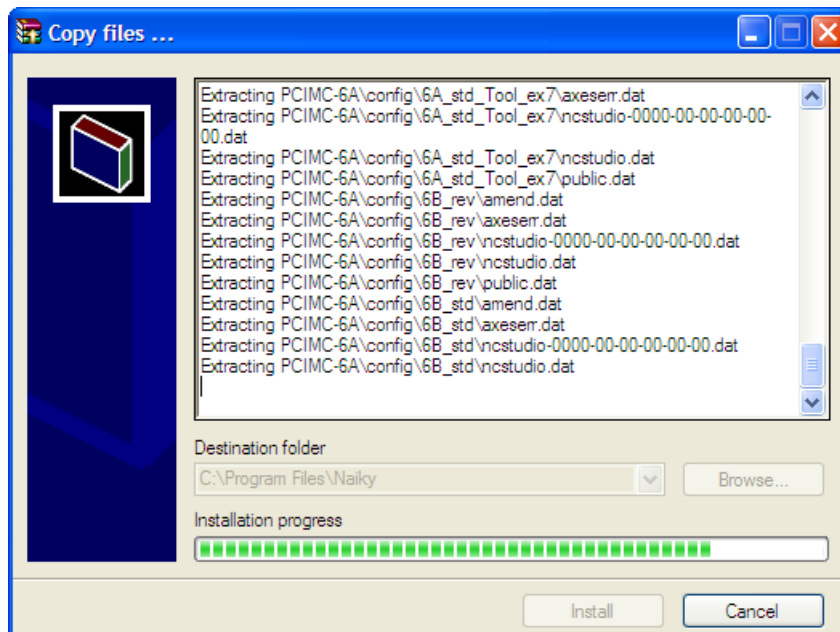
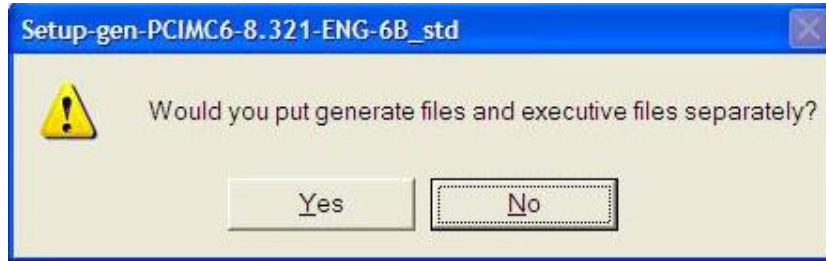

Fig. 2-4 Installing
Fig. 2-5 Prompt for files location ([No] is recommended)
- Installation begins. The NcStudio system will be installed in the directory *C:\Program Files\Naiky* by default. Progressing picture is as shown in Fig. 2-4. With that, a dialog will appear to prompt the user to decide whether to put the generated files and the executive files together or separately, see Fig. 2-5. [No] is recommended here. The next dialog to appear is prompting shutdown of the computer for convenience of motion control card installation ([Yes] is recommended), see Fig. 2-6.